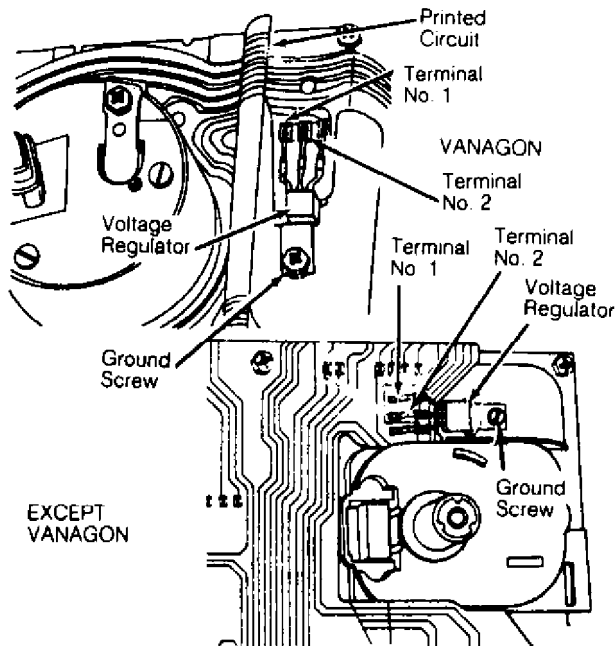

Fig. 1: Testing Voltage Regulator
- 3) Turn ignition on. Connect voltmeter negative lead (-) to terminal No. 2 of regulator. Connect positive lead (+) to terminal No. 1. See Fig. 1. Meter reading should be 10 volts with an allowable tolerance of .5 volt. If voltage reading exceeds specification, replace voltage regulator.